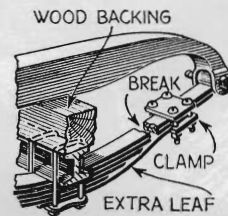

Fig. 2. An emergency repair for a broken front spring
**S**OME auto-drivers are under the impression that a car can be driven home when the front spring breaks, simply by blocking up the axle with a piece of wood. This is true if the long leaf that holds the spring-shackle bushing remains intact; but if every leaf is broken, the flexibility of the shackle at the rear of the spring will allow the axle to move back under the car so far that steering will be difficult if not actually dangerous. As Fig. 2 shows, a clamp and an extra spring leaf used in conjunction with the wooden block will bring you home safely.